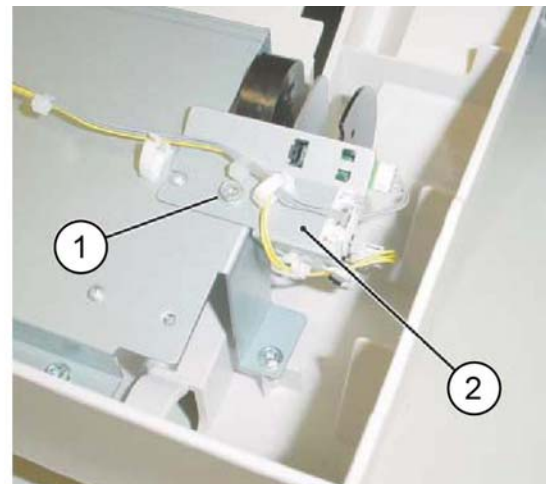

Figure 4 Stacker sensor assembly removal
8. Remove the stacker sensor assembly, **Figure 4:**
- a. Remove the screw (1).
- b. Remove the stacker sensor assembly (2).